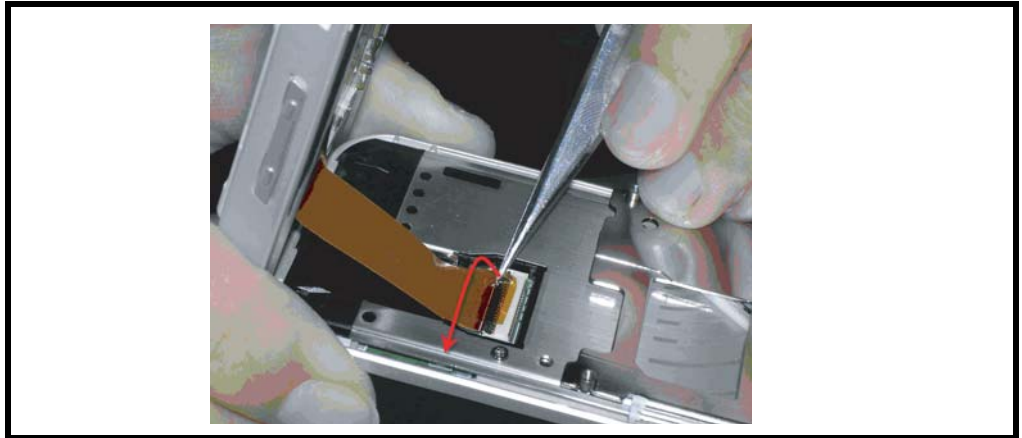

Figure 12. Peel off the mylar
6. Peel off the mylar by tweezers illustrated in Figure 12. Put the mylar aside for reused.